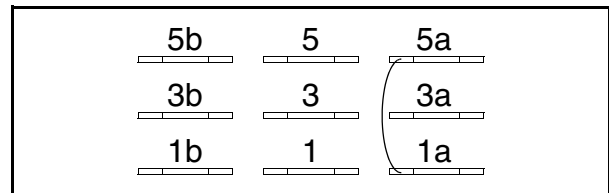

Figure 13
This configuration shortens the prewash step from 4 minutes to 2 minutes. See *Figure 13*.
- The even-numbered side of the program timer can be configured with jumpers to adjust the rinse temperature or to change the water level for the wash step. Either or both even-side jumper configurations may be used in conjunction with any of the 11 permissible odd-side jumper combinations. See *Figure 13*.